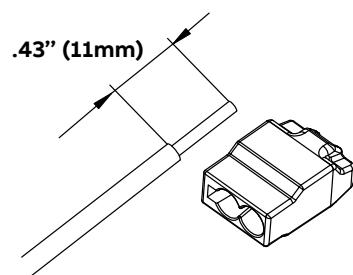

Figure 1
2. Strip wire 11 mm (.43 in.). Note stranded wire should be tinned to help with insertion (Figure 1).